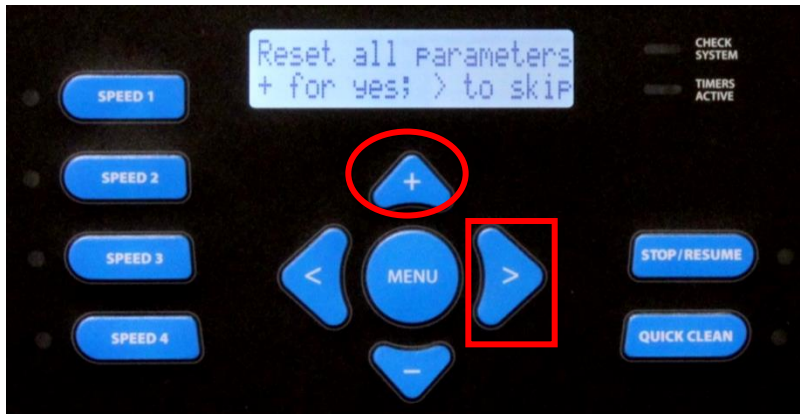
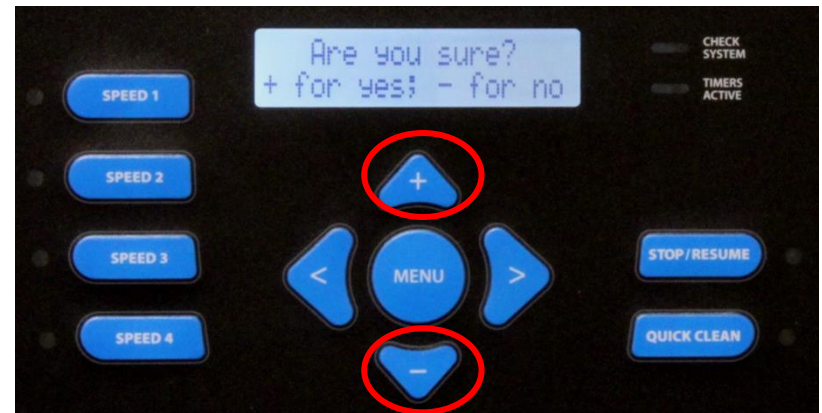

Figure 40
Figure 41
18. At this point you will be asked if you would like to reset to the default parameters (factory settings) (fig 40). If yes, press  and confirm on the next screen. If no, press the  button to continue (fig 41).